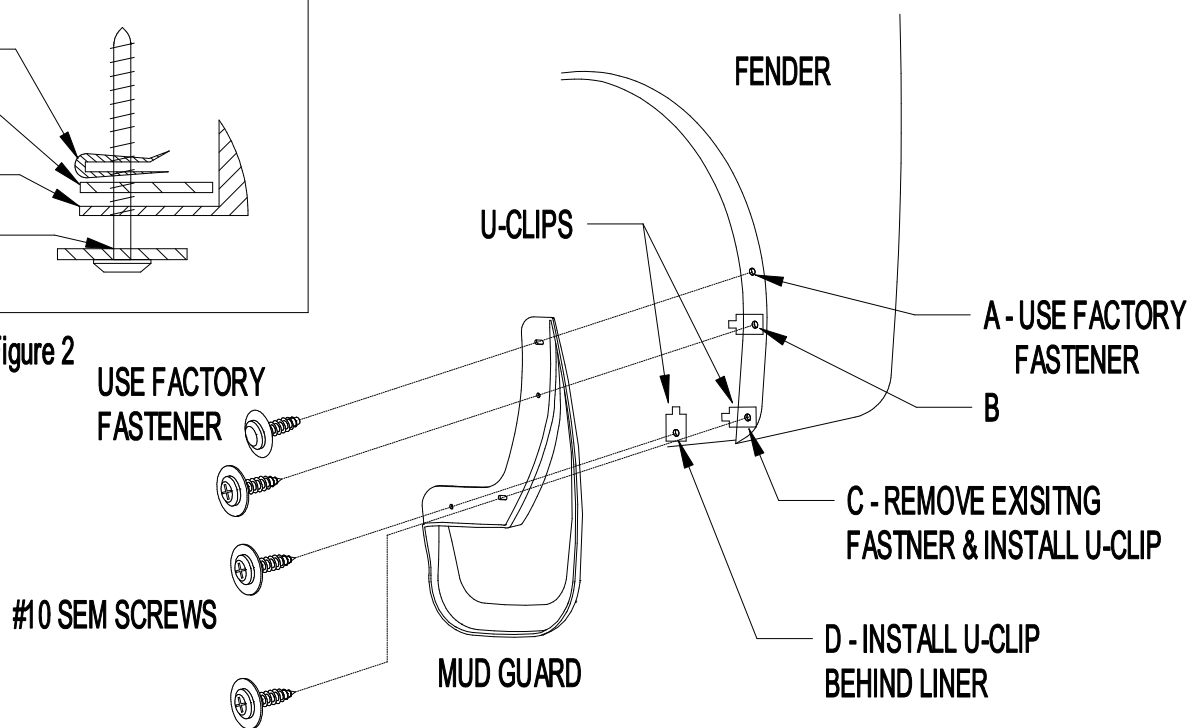

Figure 1
- #10 SEM screw (6)
- U-clip (6)
2. Remove existing fastener from location A and plastic fastener from location C (Figure 1).
3. Install mud guard to rear fender with existing fastener at location A (Figure 1). Check fit and parallel and adjust accordingly before tightening.